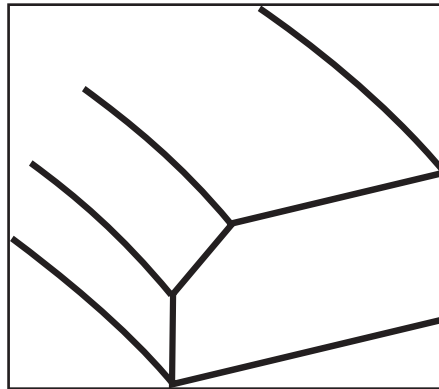

Figure 2
- 7- If ring has no dot but does have inside diameter bevel, bevel goes to top of piston. **See Figure 2** above.